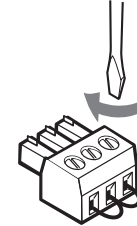

Figure 2-14 — Captive screw plug with jumper wires connecting pins 1, 2, and 3 (ground) together
2. Insert the ends of one wire into pin holes 1 and 2 of the provided 3-pin captive screw plug, connecting pins 1 and 2 together as shown in figure 2-14, on the next page.
3. Insert the ends of the second wire into pin holes 2 and 3 of the captive screw plug, connecting pins 2 and ⏏ (3).